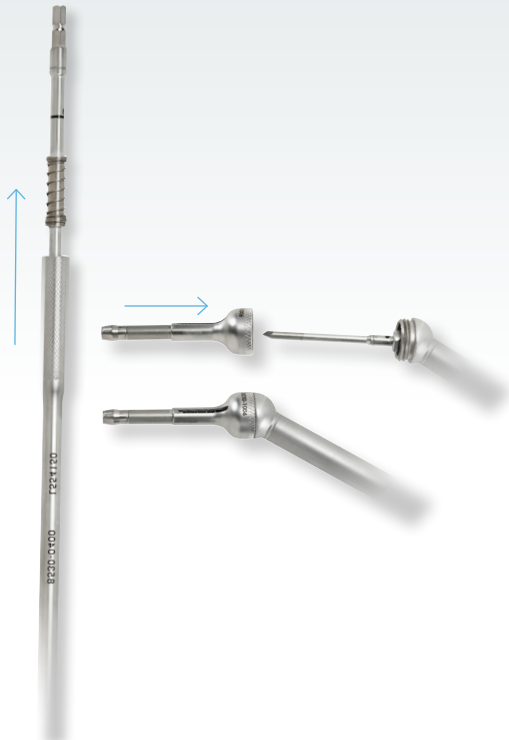

Figure 19a:
- For preparation using straight instruments, select the straight sleeve fixed or the straight sleeve variable, and insert the straight drill or straight awl which is assembled to the ratcheting straight handle or ratcheting T-handle (**Figure 19a**).